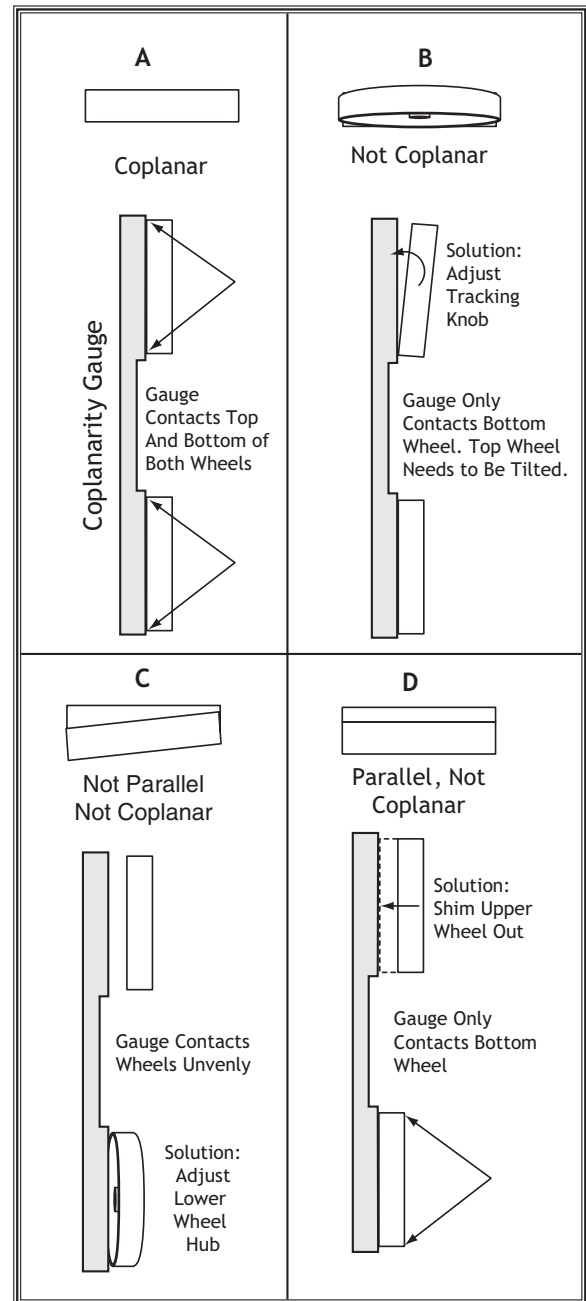

Figure 75. Coplanarity diagram.
- If the wheels are coplanar (**Figure 75, A**), the straightedge will evenly touch the top and bottom of both wheels.
- If the wheels are not coplanar (**Figure 75, B**), place the straightedge on the lower wheel first (ensuring that it touches both the top and bottom rim), then adjust the upper wheel tracking knob to make the upper wheel coplanar and parallel with the lower wheel.
- If the straightedge does not touch both wheels evenly, the lower wheel needs to be adjusted (**Figure 75, C**) or the upper wheel needs to be shimmed (**Figure 75, D**).